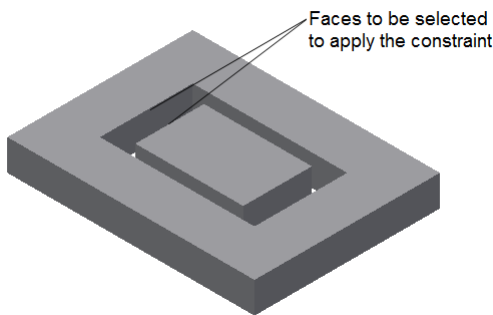

Figure 18-36 Faces selected to apply the **Mate** constraint
8. Now, apply the **Mate** constraint with an offset value of 10 mm between the selected faces as shown in Figure 18-36; the Inner Plate shifts toward right.